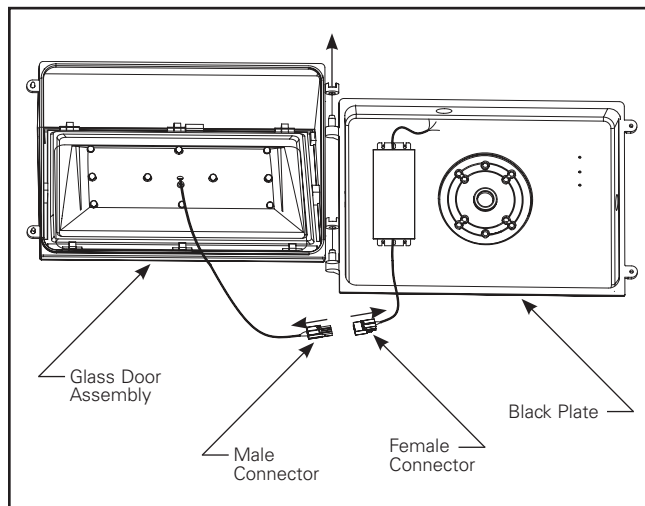

Figure 1.
1. Open the fixture by loosening the two Phillips head screws on the side opposite the hinges. Disconnect the male and female connectors. Remove the glass door assembly, and gently set it aside. (Figure 1)